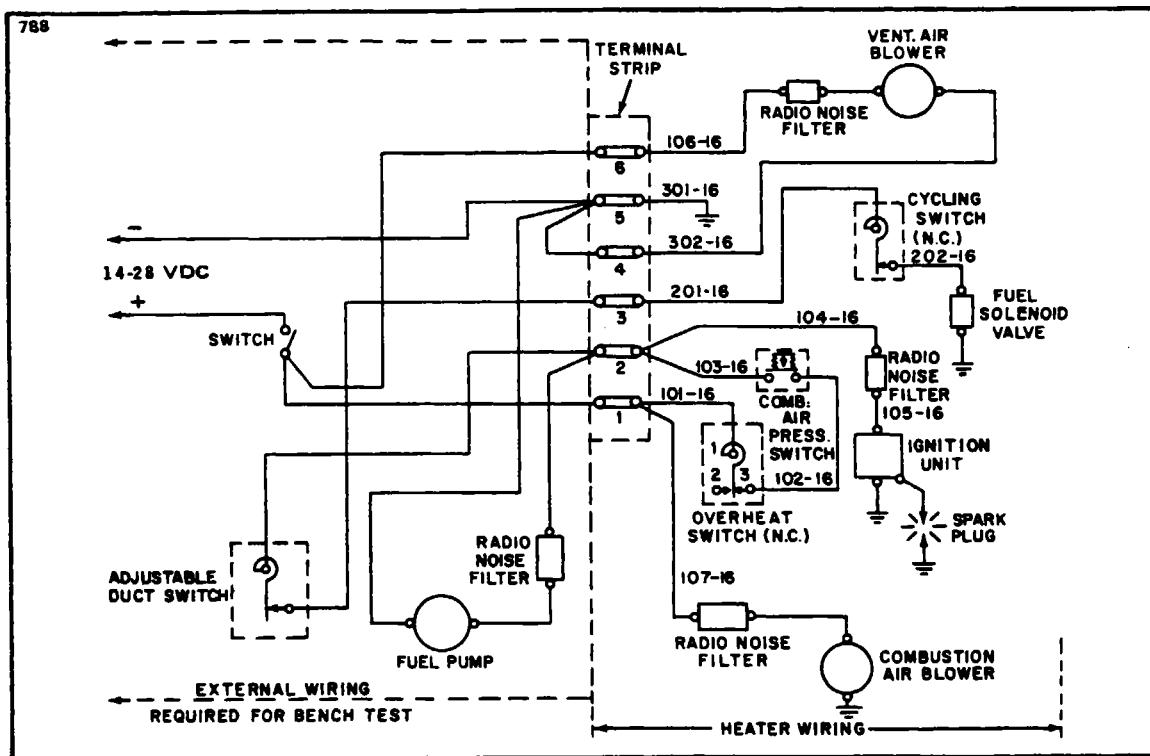

Figure 13-34. Wiring Connections for Heater Operation Test
- Connect components and heater as outlined in the wiring connection diagram, Figure 13-34. The power supply switch should be open.